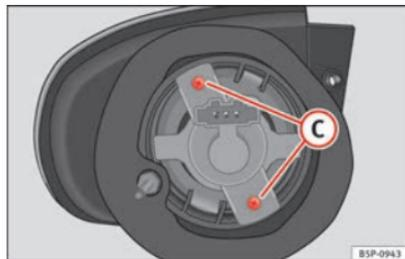

Fig. 192 Turn signal light.
- Unscrew the bolts ⇒ Fig. 192 **C** from the bulb holder and pull on this.
- Unscrew the bolts ⇒ Fig. 192 C from the bulb holder and pull on this.